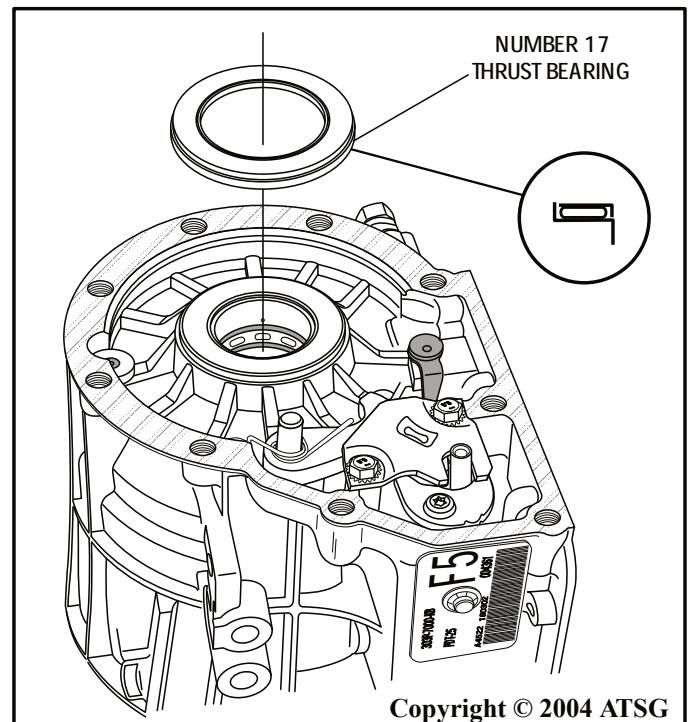

Figure 62
20. Install the number 17 thrust bearing onto the case, in the direction shown in Figure 62, and retain with a small amount of Trans-Jel®.